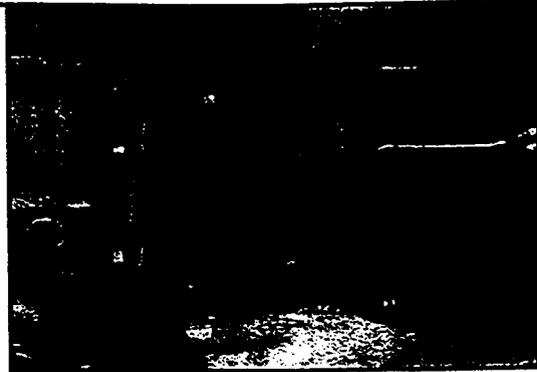

Fig. 5
5. For the 230, 800, and 852 series, place one thick gasket .020" (.50 mm) and one thin gasket .010" (.25 mm) over the studs. For the 270 series with the AJ gear pitch designation (i.e.: 270XBAJP-B3XD), use the special 35-P-41 gasket that comes with the P.T.O. When the 35-P-41 gasket is installed with the 270 series, the need for backlash adjustment is greatly reduced. (See Fig. 5.)